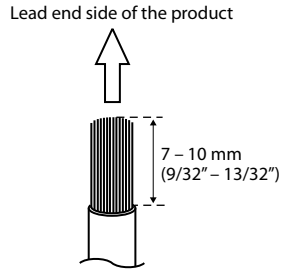

Fig. 8
- Remove the insulation from the ends of the wire leads by about 7 – 10 mm (9/32" – 13/32"). (Fig. 8)